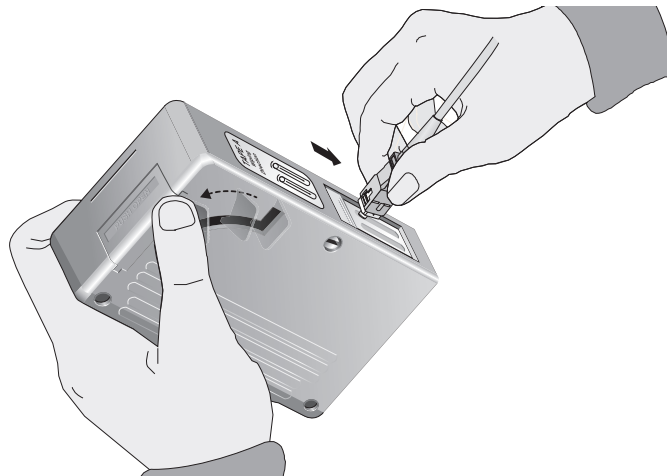

Figure 39. Rubbing the Ferrule Tip on the Cleaning Surface
1. With one hand, hold the cartridge cleaner and push the lever on the cleaning cartridge in the direction of the arrow to expose the cleaning surface, as shown in Figure 39.
2. Place the ferrule tip on the exposed cleaning surface and rub the ferrule in a downward direction, as shown in Figure 39 on page 96.
1. Insert the swab into the adapter as shown in Figure 39 and rub the ferrule tip with the swab.